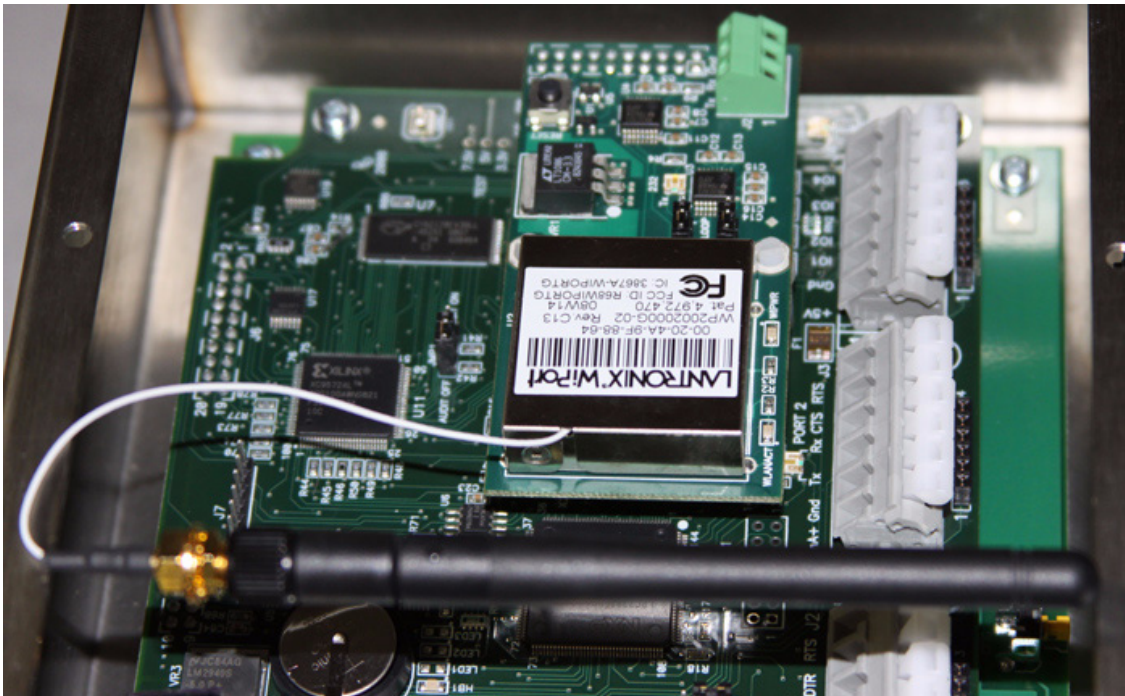

Figure 2. Antenna installed on card
1. If the antenna is not already connected, screw it in place as shown in Figure 2.